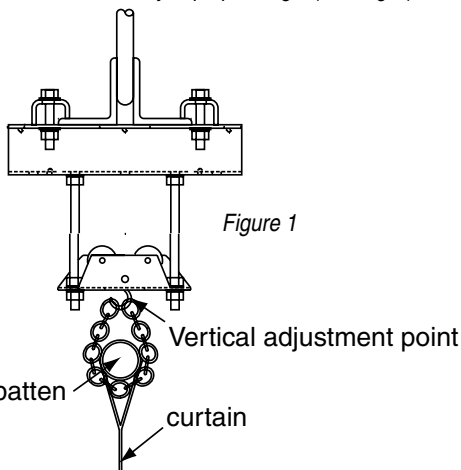

Figure 1
- ① Verify overall height and width with shop drawing to determine possible discrepancies.
- ② Attach winch support angles to winch plate and install winch per location shown on shop drawing.
- ③ Install drive pipe support assembly angles per location shown on shop drawing.
- ④ Attach drive pipe support assemblies to angles with threaded rod. Adjust assemblies vertically to proper height (See Fig. 1).
- There are two basic vertical adjustments to this divider. One is the threaded rods attaching the drive pipe support assemblies to the drive pipe support angles. The other is the chain from the drive pipe support assembly to the top of the curtain (see Fig. 1).